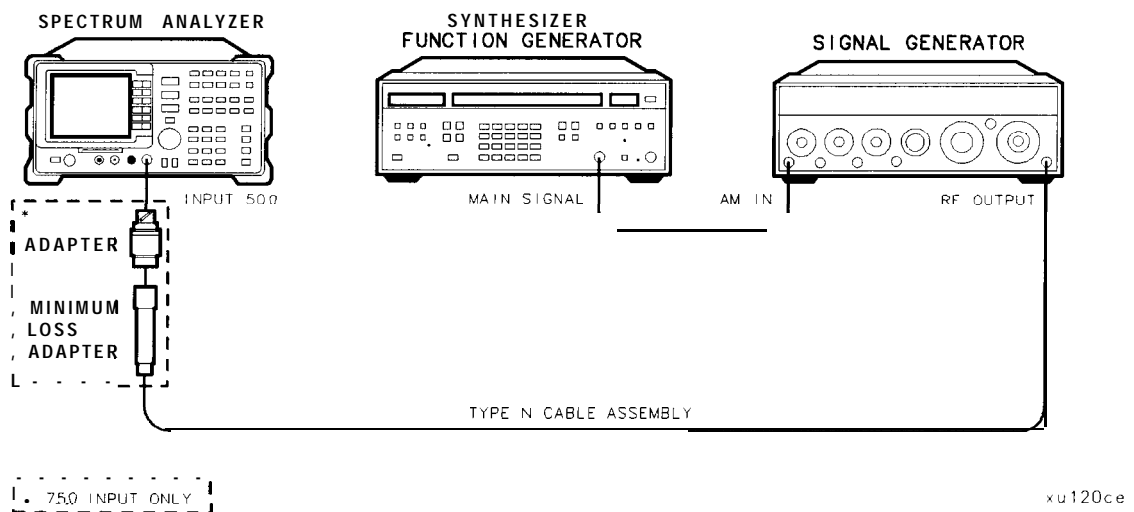

Figure 2-16. Sweep Time Accuracy Test Setup
3. Connect the equipment as shown in Figure 2-16.
**MKR FCTN** MK TRACK ON OFF (ON)